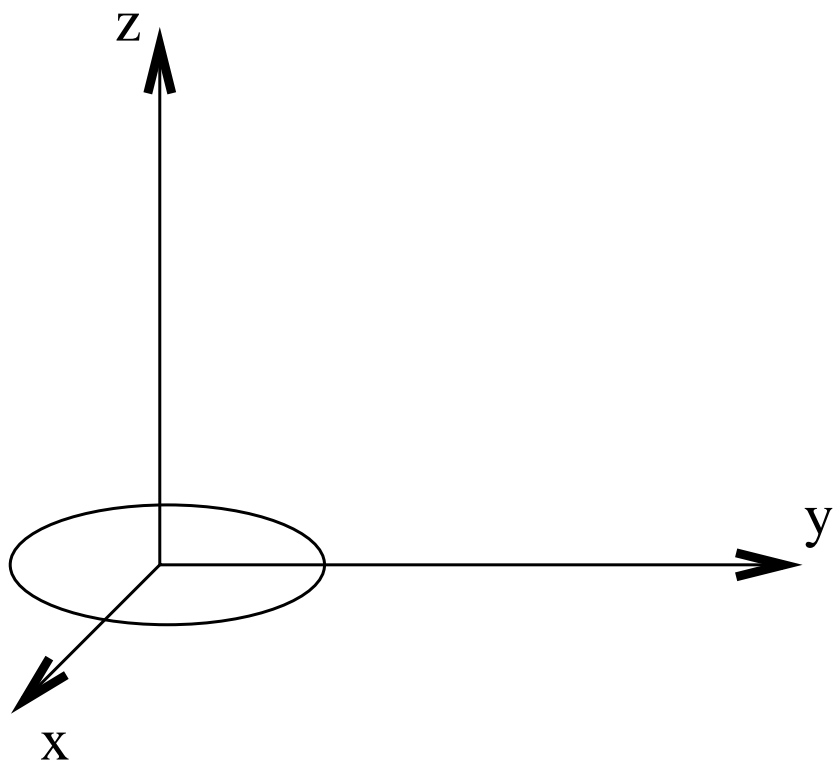

Figure 14:
8. A heater coil in the form of a ring of radius  $a$  in the  $x-y$  plane generates heat  $Q$  per unit length of the coil per unit time, as shown in figure 14
- (b) Plot the temperature as a function of position along the symmetry axis of the heater ( $z$  axis in the figure 14). Simplify the expressions for the temperature for  $z \ll a$  and  $z \gg a$ . What does the expression for  $z \gg a$  correspond to?